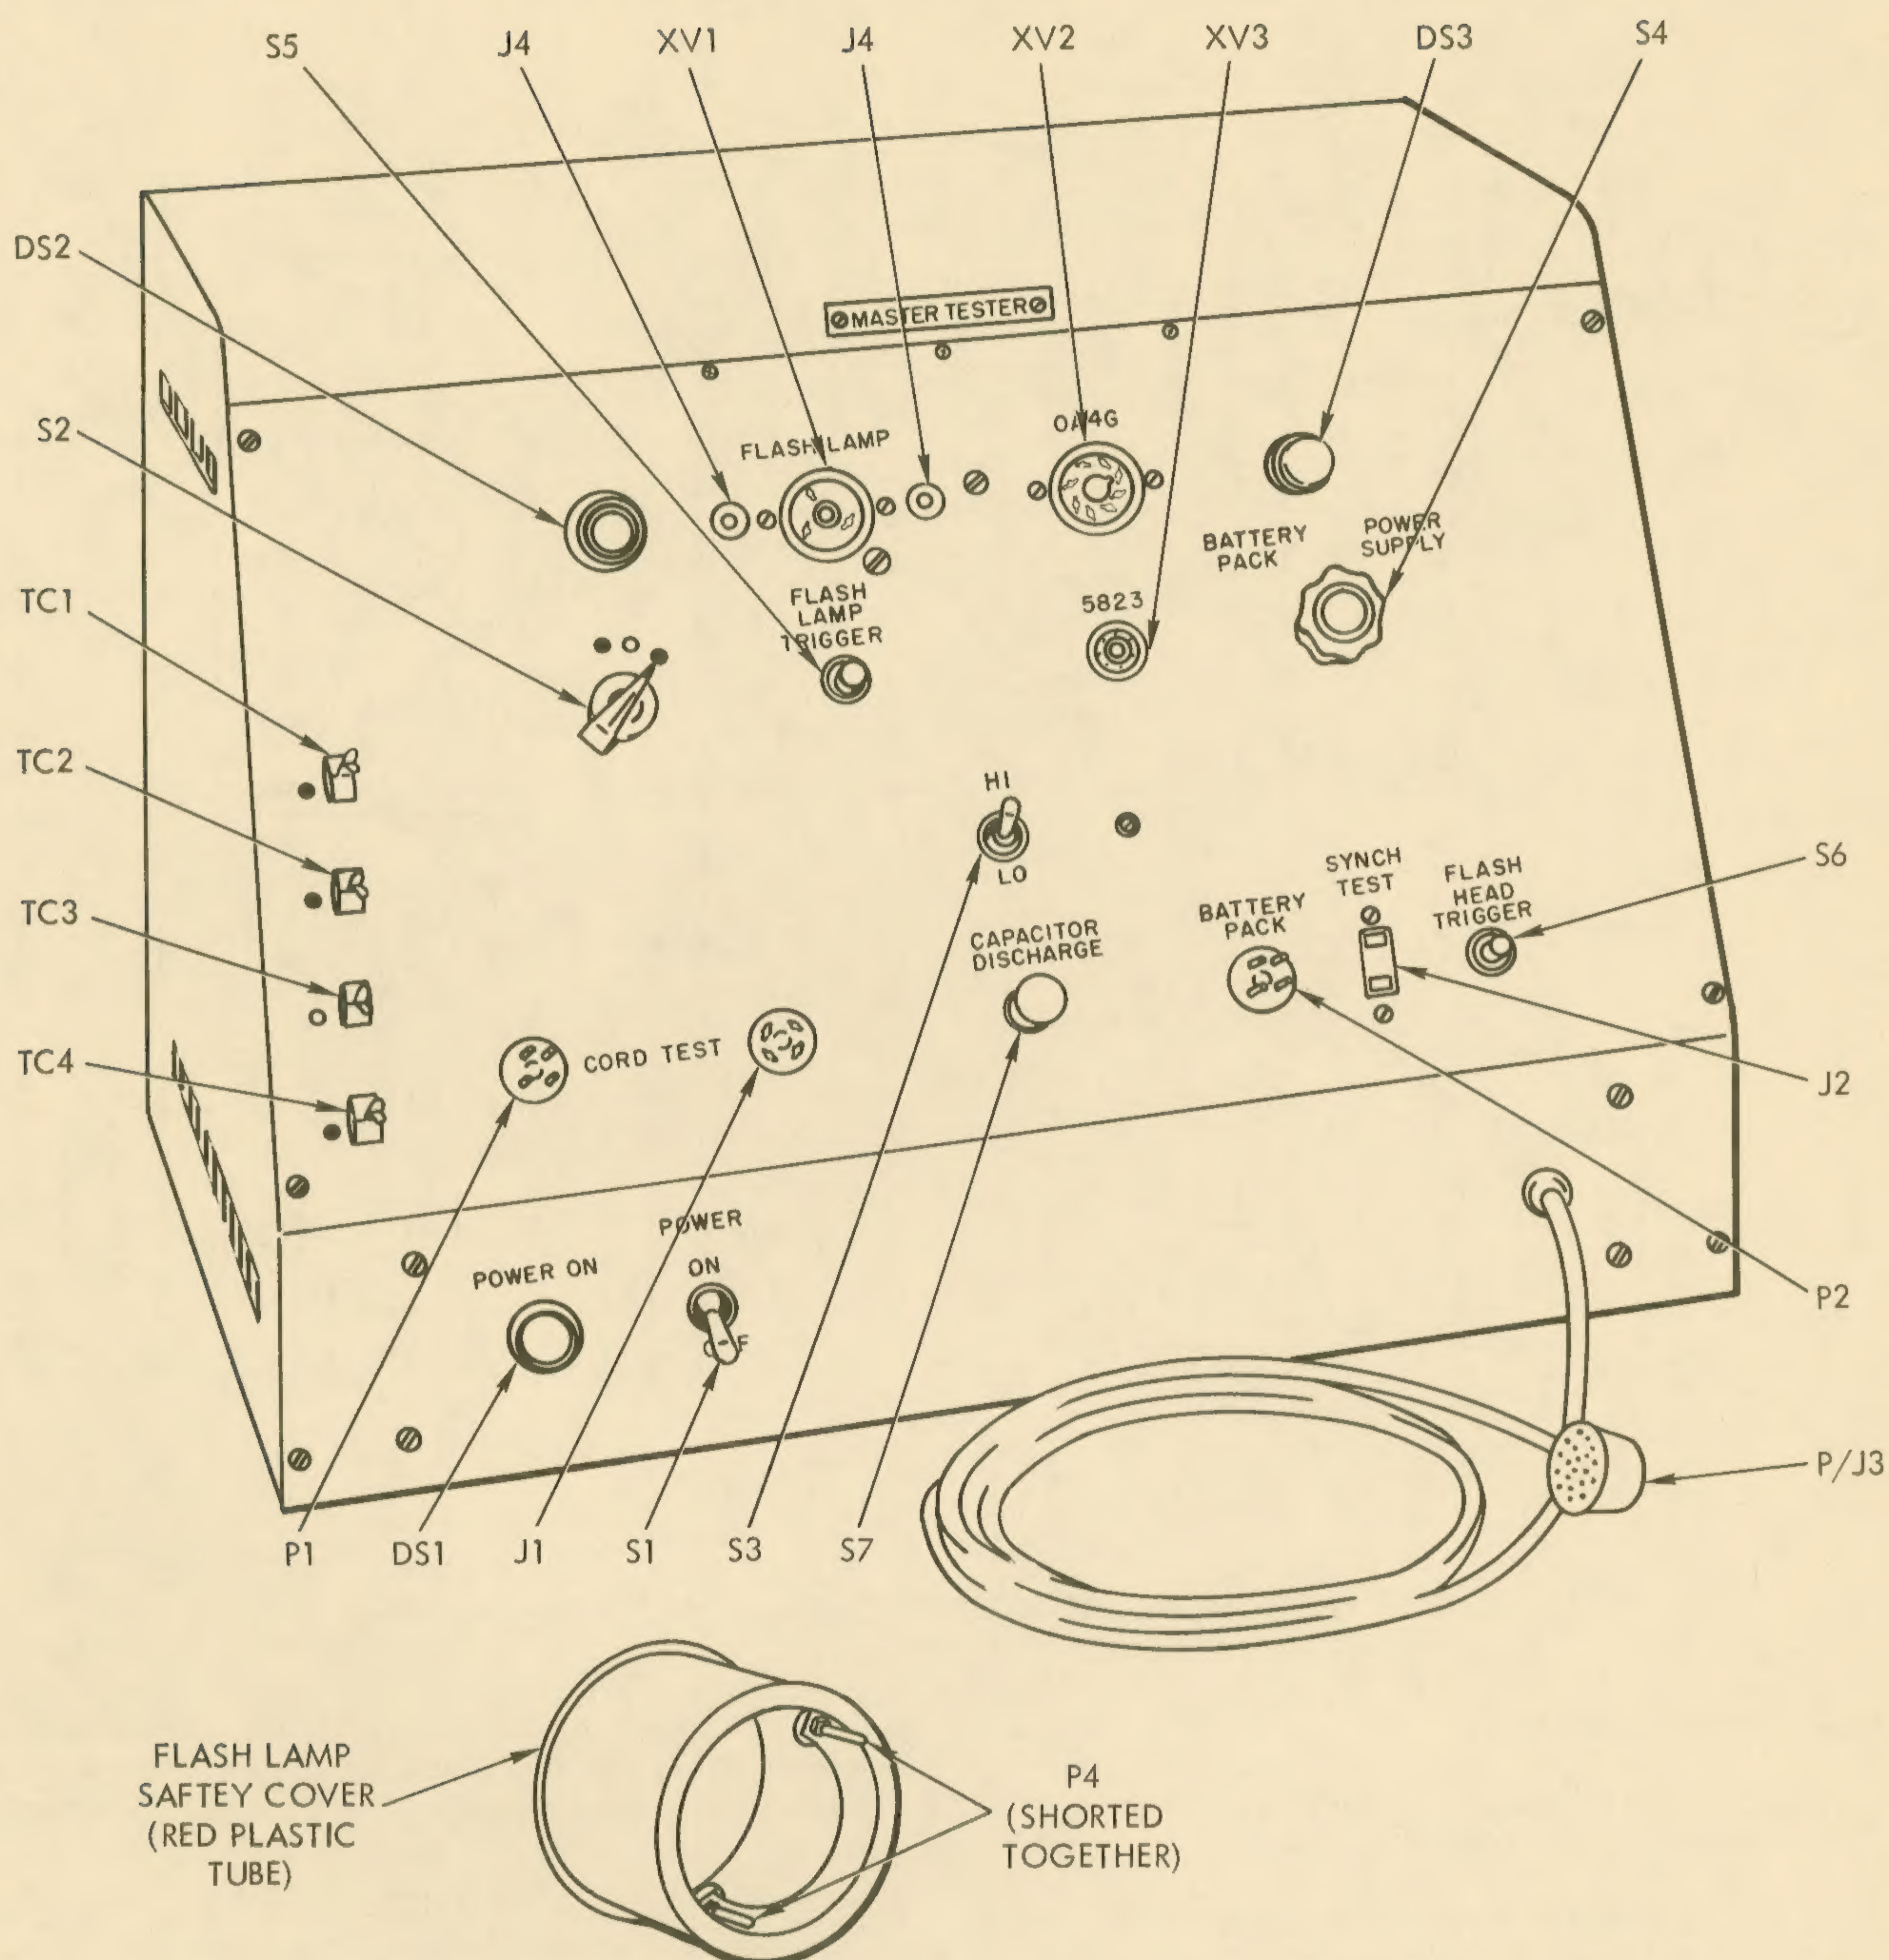

Figure 5. STROBOFLASH MASTER TESTER, FRONT VIEW
1. Stroboflash Master Tester (see figure 5)
**NOTE:** Paragraphs G and H and figures 5 through 8 provide necessary information for construction, operation, and calibration of the master tester.
The Stroboflash Master Tester is a special piece of test equipment that provides for checking all electrical functions of the Stroboflash equipment. This equipment will help to isolate trouble areas within the electrical circuits of the lamphead or power pack with minimum time and effort. An equivalent tester may be constructed locally by referring to figures 5 through 8 and the list of materials given on page 7.